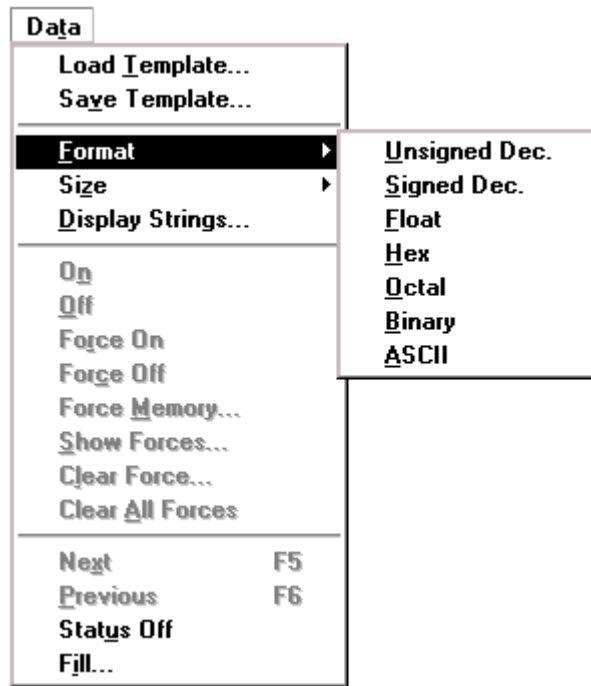

Figure 6.8
1. Data Format is available for byte, word and double word addresses. Select Format from the Data menu while in the Data Window. The Data menu is available only while in the Data Window. The Format dialog box appears (Figure 6.8).